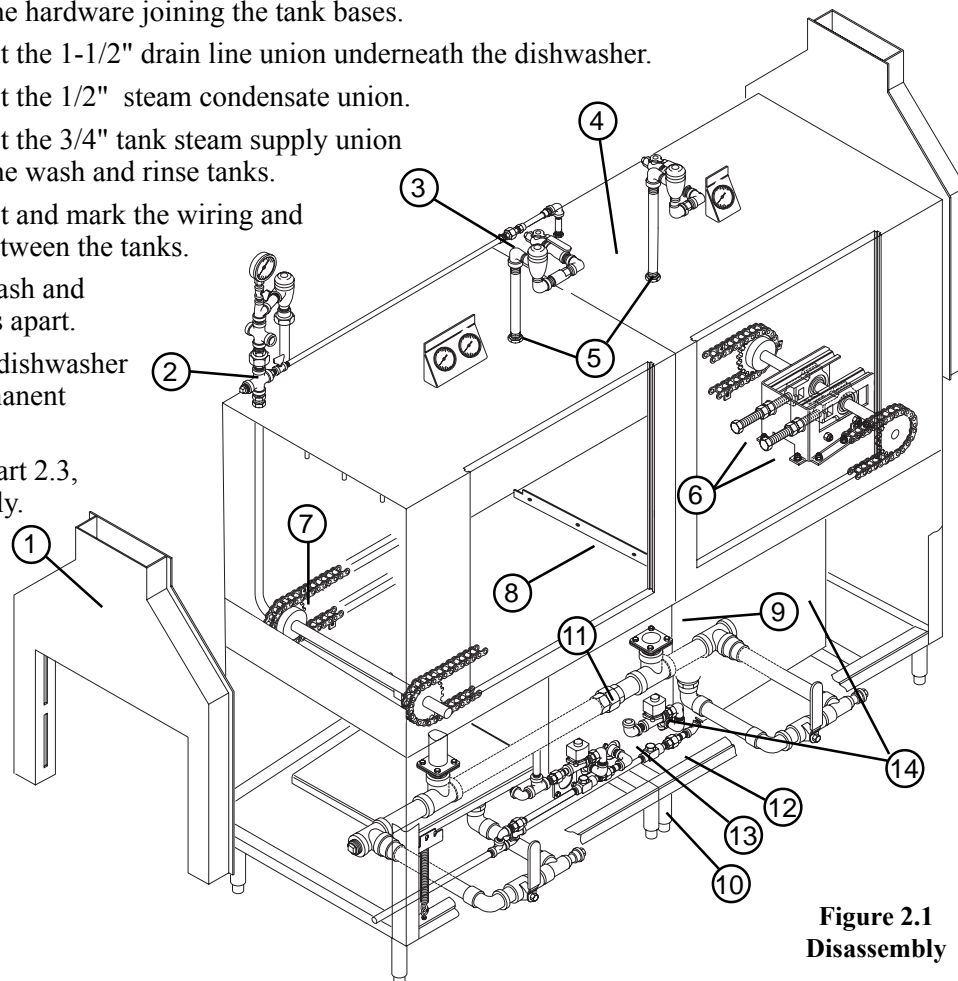

Figure 2.1
Perform the following steps to disassemble the dishwasher. Refer to Fig. 2.1 below.
Perform the following steps to reassemble the dishwasher prior to permanent placement. Refer to Fig. 2.1 on the preceding page.
11. Reconnect the wiring and plumbing. Refer to Steps 12-14, Part 2.2 and Fig 2.1.
12. Pull the conveyor drive chains stored in the wash tank back to the rinse tank. Make sure the drive chain with the dishrack lugs is positioned on the rear track. See Item 7, Fig.2.1.
14. Reinstall remaining plumbing using plumber's putty or thread sealant where required. Refer to Steps 2-5, Part 2.2 and Fig.2.1